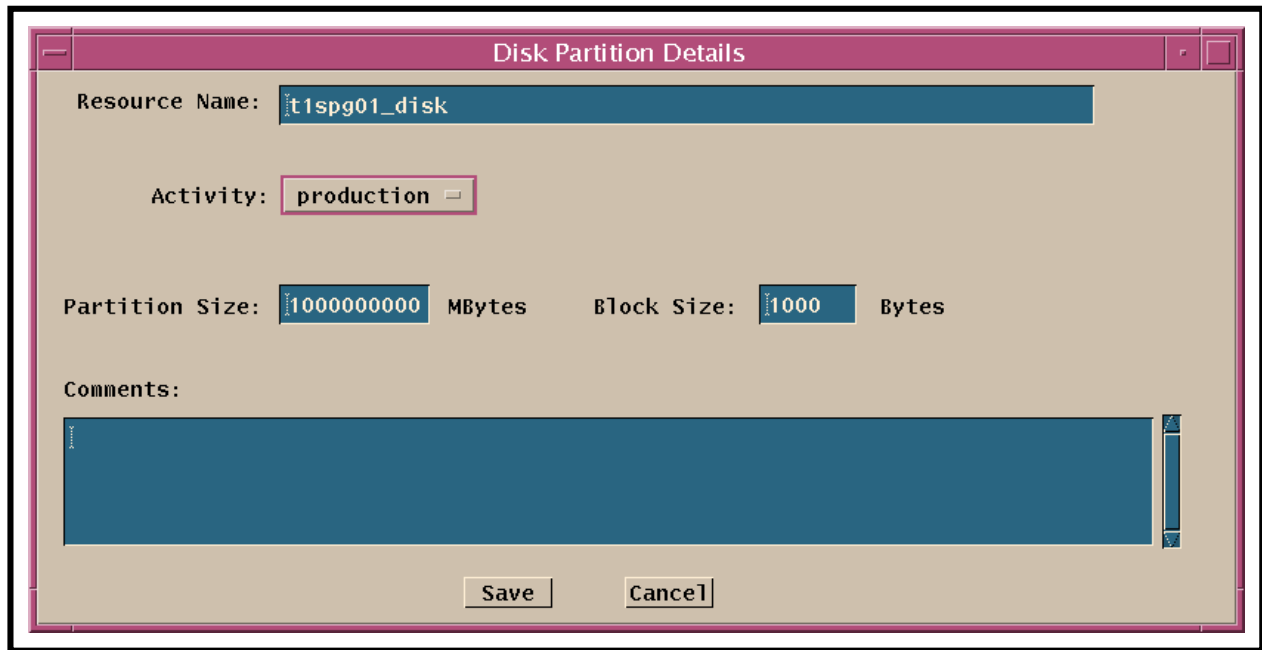

Figure 10. Disk Partition Details GUI
- The **Disk Details** GUI displayed when the **New...** button on the **Resource Editor** GUI is clicked is similar to the **Disk Partition Details** GUI (Figure 10) that is displayed when the **Modify...** button on the **Resource Editor** GUI is clicked.